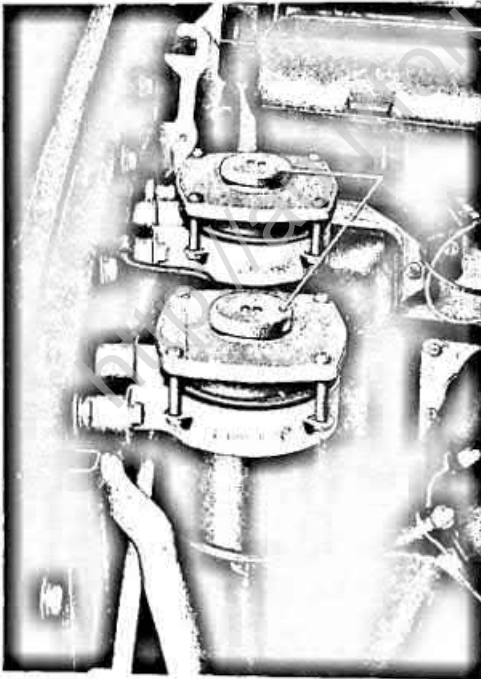

Fig. 23. MASTER CYLINDERS SUPPLY TANKS.
2. Fill both master cylinder brake fluid supply tanks (Fig. 23) with the recommended fluid, and ensure that they do not become completely empty during the following operations.
Both brake fluid supply tanks for the two master cylinders, fitted to the right hand valance plate (Fig. 23) should be examined every 10,000 miles and topped up if necessary, with the recommended fluid.